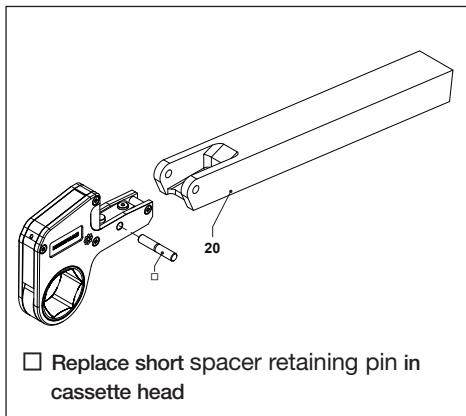

Fig. 6
3.4.1 To Attach the WTE Series Extended Reaction Arm (Fig. 6)
- Install the cassette in to the cut out in the WTE Series extended reaction arm (20) aligning the holes in the arm with the hole in the cassette.